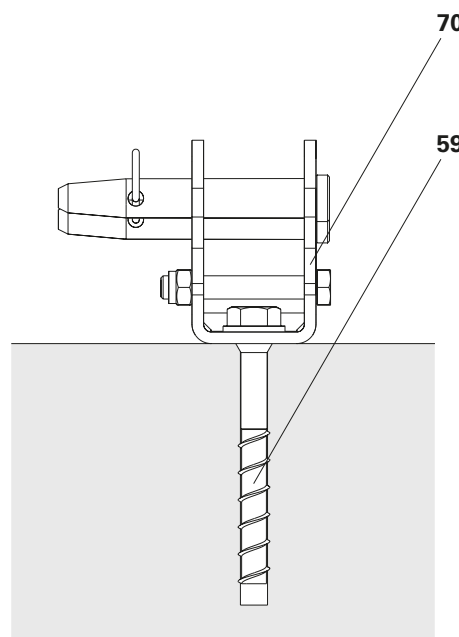

Fig. B1.04a
2. Mount base plate for RS-3 (70) on the ground using Tie Bolt PERI (59). (Fig. B1.04a)